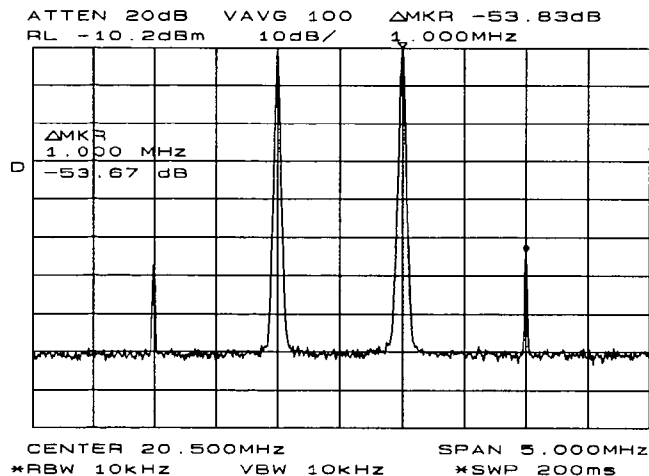

Figure 3-10. Intermodulation Distortion Measured in dBc
- For this type of measurement, distortion-free dynamic range is an important consideration. To maximize such dynamic range, set the mixer input level to -30 dBm by pressing **AMPLITUDE**, **MORE 1 OF 3**, **MAX MXR LEVEL**, and enter -30 dBm. The spectrum analyzer automatically sets the attenuation so that the maximum signal level is -30 dBm at the input mixer when the signal is at or below the reference level (see Appendix G). You will hear the input attenuator click; notice that the value of the attenuator is now 20 dB (see Figure 3-10).
- Once a marker is activated, the marker-delta function activates a second marker and displays the difference between the two markers. Relative measurements can then be performed easily. To measure a distortion product, press **PEAK SEARCH** to place a marker on a source signal. To activate a second marker, press **MARKER DELTA** and **NEXT PK LEFT** or **NEXT PK RIGHT** to set the second marker on the peak of the distortion product that is beside the signal source, as in Figure 3-10. The difference in frequency and amplitude between the two markers is displayed in the active function block.